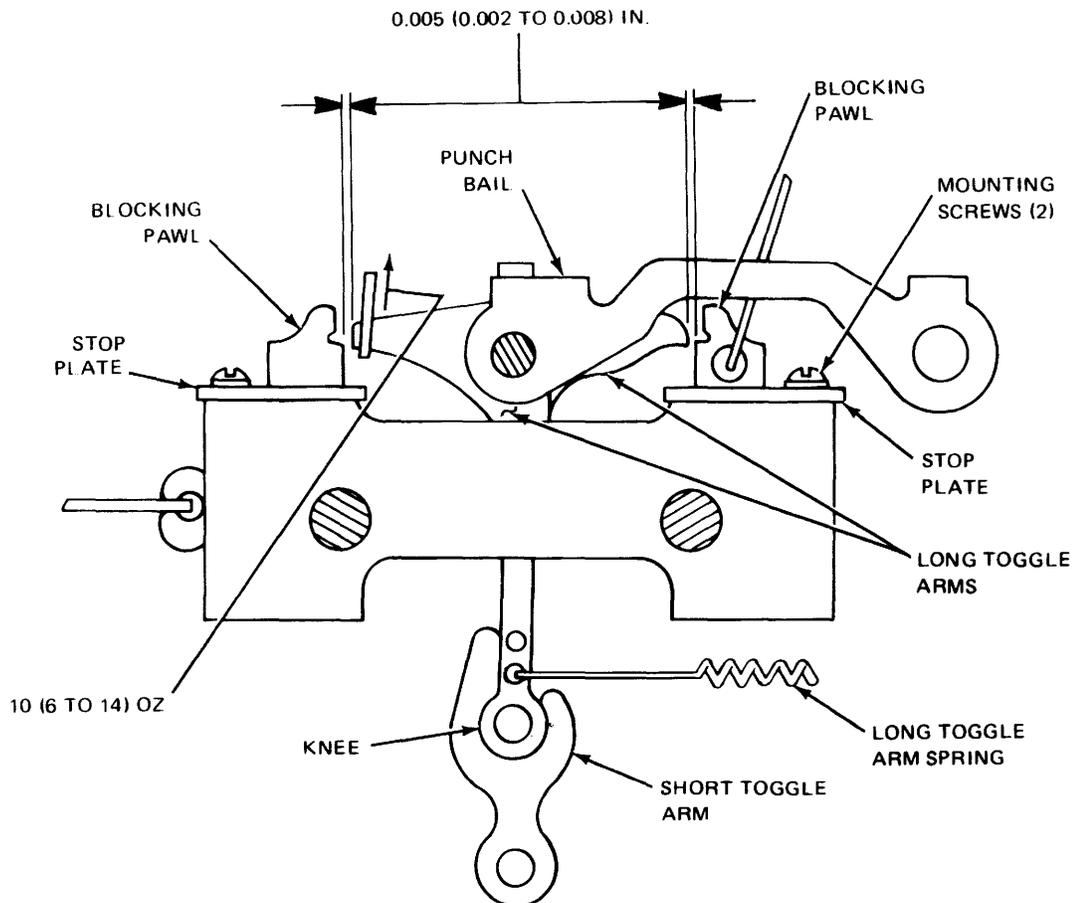

Figure 6-33. Stop Plate and Toggle Arm Springs Adjustment.
6-29. Punch Stop Plate and Long Toggle Arm Spring Adjustment. To adjust the punch stop plate and long toggle arm spring (code magnets and feed magnet), see figure 6-33, and proceed as follows:
a. Hold blocking pawls against stop plates and away from toggle arm (see figure 6-33).
b. Hook scale on long toggle arm (see figure 6-33).
d. Hook spring scale under long toggle arm (see figure 6-33).